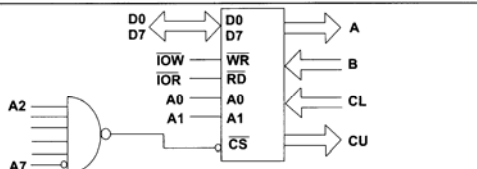

Figure 4-7. Configuration for Example 4-6
- Find the port address for Figure 4-7.